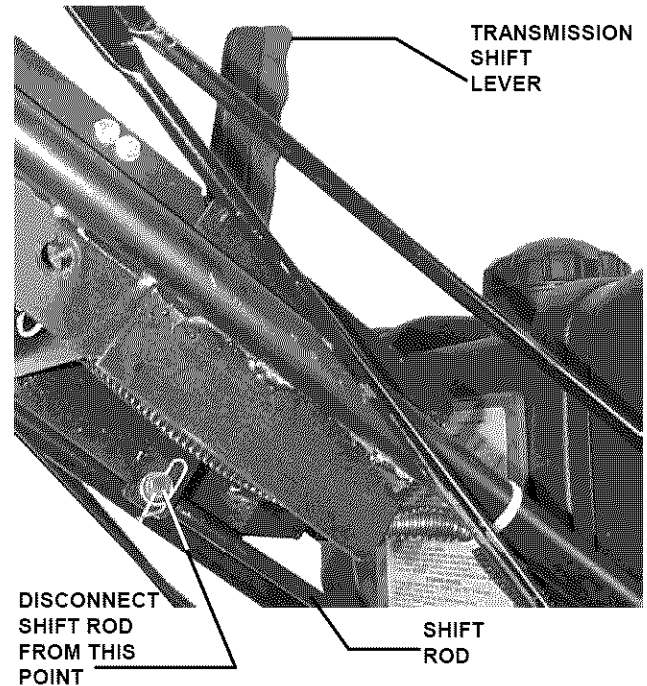

FIGURE 5.4
1. Disconnect the hair pin from shift rod that connects to the Transmission Shift lever. See Figure 5.4.